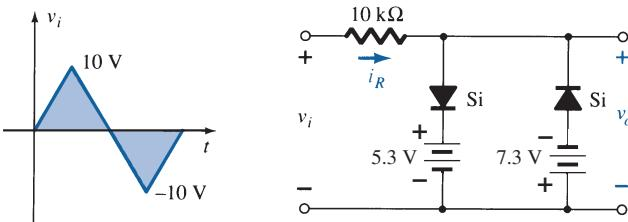

FIG. 180
36. Sketch i_R and v_o for the network of Fig. 180 for the input shown.